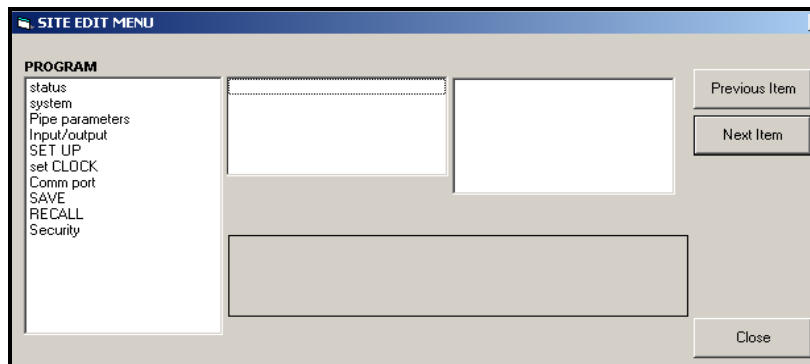

Figure 37: Site Edit Menu Window
- To open a particular menu, double-click on that menu on the tree. For example, if you double-click on the Site Edit Menu, a window opens similar to Figure 37 below.